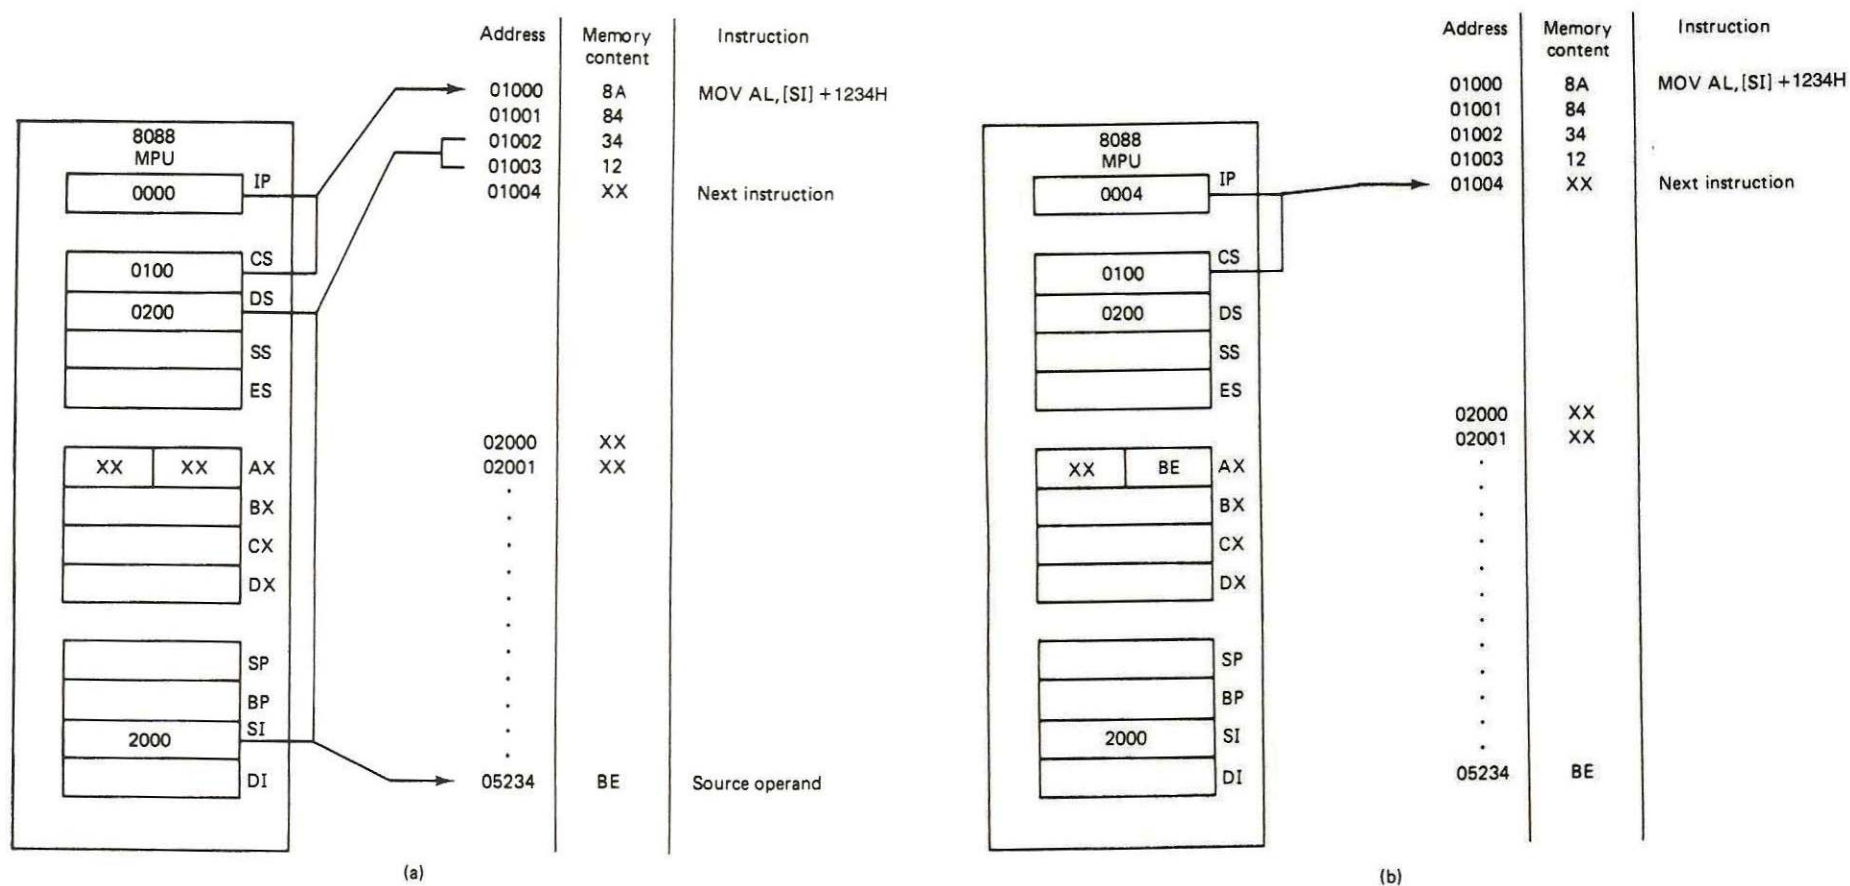

Fig 7(a) before fetching and execution (b) after execution
3.3.4 Indexed addressing: this mode, work in similar manner to that of the based addressing mode but the effective address is obtained by adding the displacement to the value in an index register (**SI** or **DI**). Fig 7 below shows the memory and registers before and after the execution of instruction: